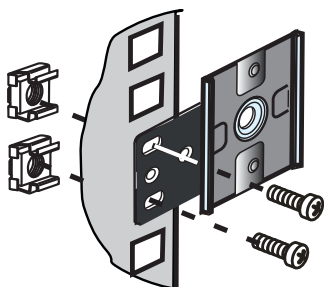

Figure 23. Attaching the Rotated Clip to the Rail
7. Locate the two clip feet and four M6 screws (supplied). Turn the straight part of the bracket 90° (see Figure 23).